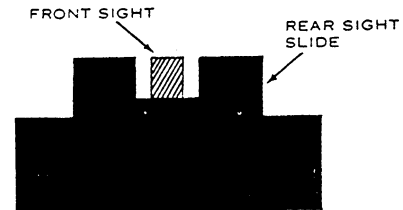

Figure 13-31.—Sight alignment.
**SIGHT ALIGNMENT.**— To align the sights of the M60 machine gun correctly, center the front sight blade vertically in the aperture of the rear sight slide. The top of the front sight blade should be even with the top of the rear sight slide (fig. 13-31).